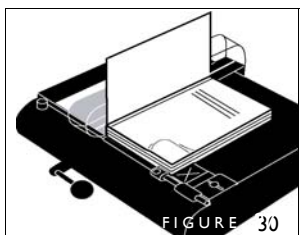

FIGURE 30
4. Lay the book block, front facing up, on the right side of the Platform with its bottom edge resting against the Guide Rail (figure 30). It is OK if part of it rests on top of the Centering Guide. Push the spine of the book block against the spine portion of your cover that is folded up.